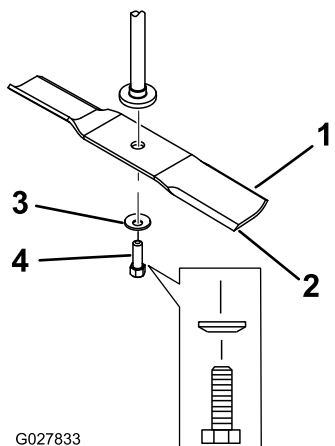

Figure 54
2. Remove the blade bolt, the curved washer, and the blade from the spindle shaft (Figure 54).
2. Install the curved washer (cupped side toward the blade) and the blade bolt (Figure 54).
1. Install the blade onto the spindle shaft (Figure 54).